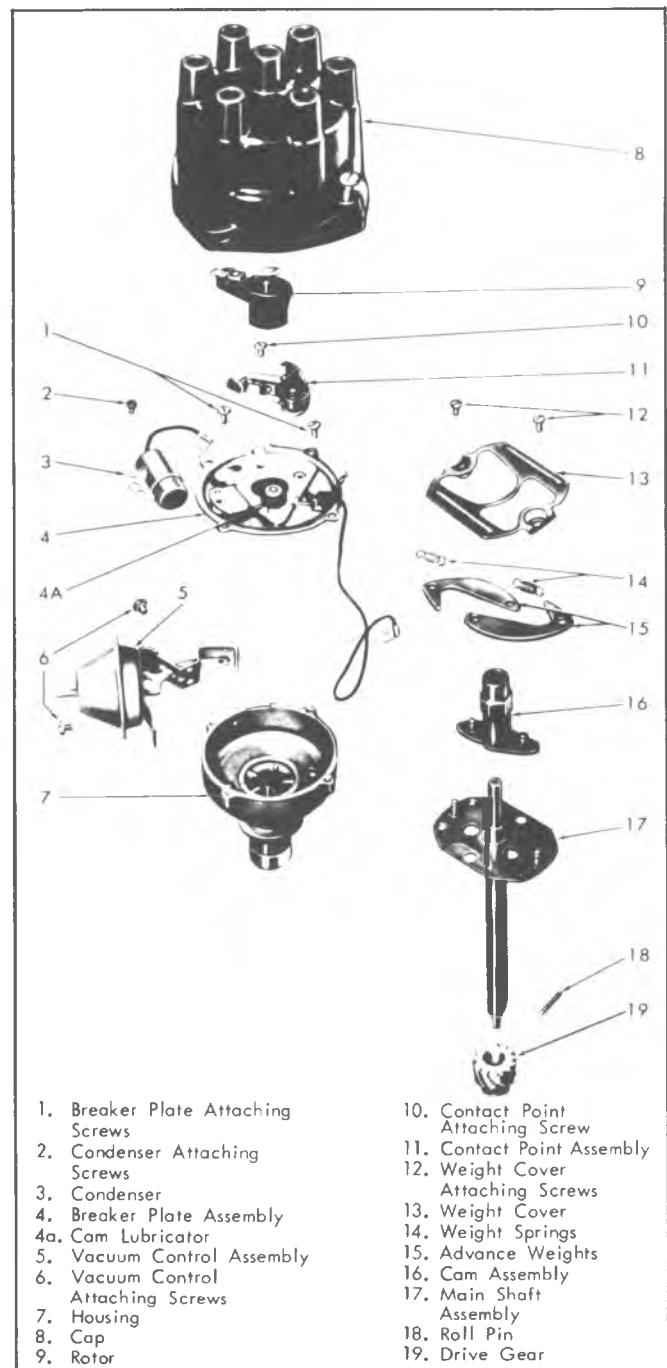

Fig. 20i—L-6 Distributor - Exploded View
#### Six Cylinder Engines (Fig. 20i)
**Assembly****Six Cylinder Engine (Fig. 20i)**